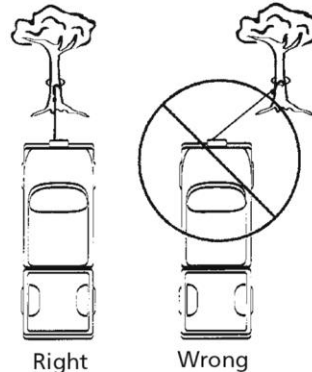

**Figure 5**
10. It is a good idea to lay a heavy blanket or jacket over the wire rope near the hook end when pulling heavy loads (Figure 5). If a wire rope failure should occur, the cloth will act as a damper and help prevent the rope from whipping. Raise hood of vehicle for added protection.